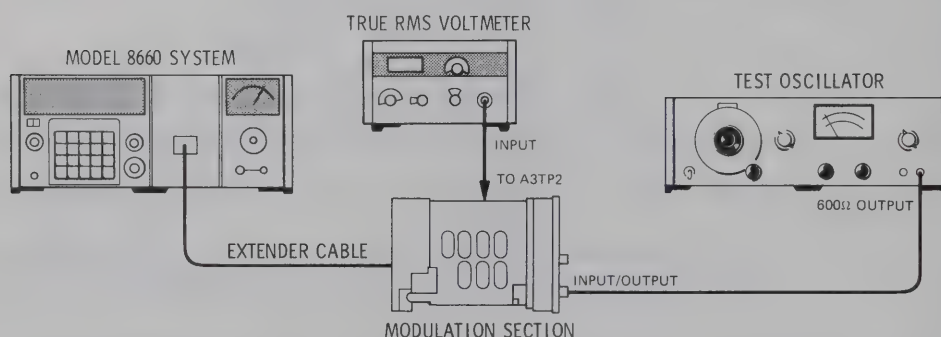

Figure 5-4. Reduce Deviation Lamp Adjustment Test Setup
1. Connect the equipment as shown in Figure 5-4.